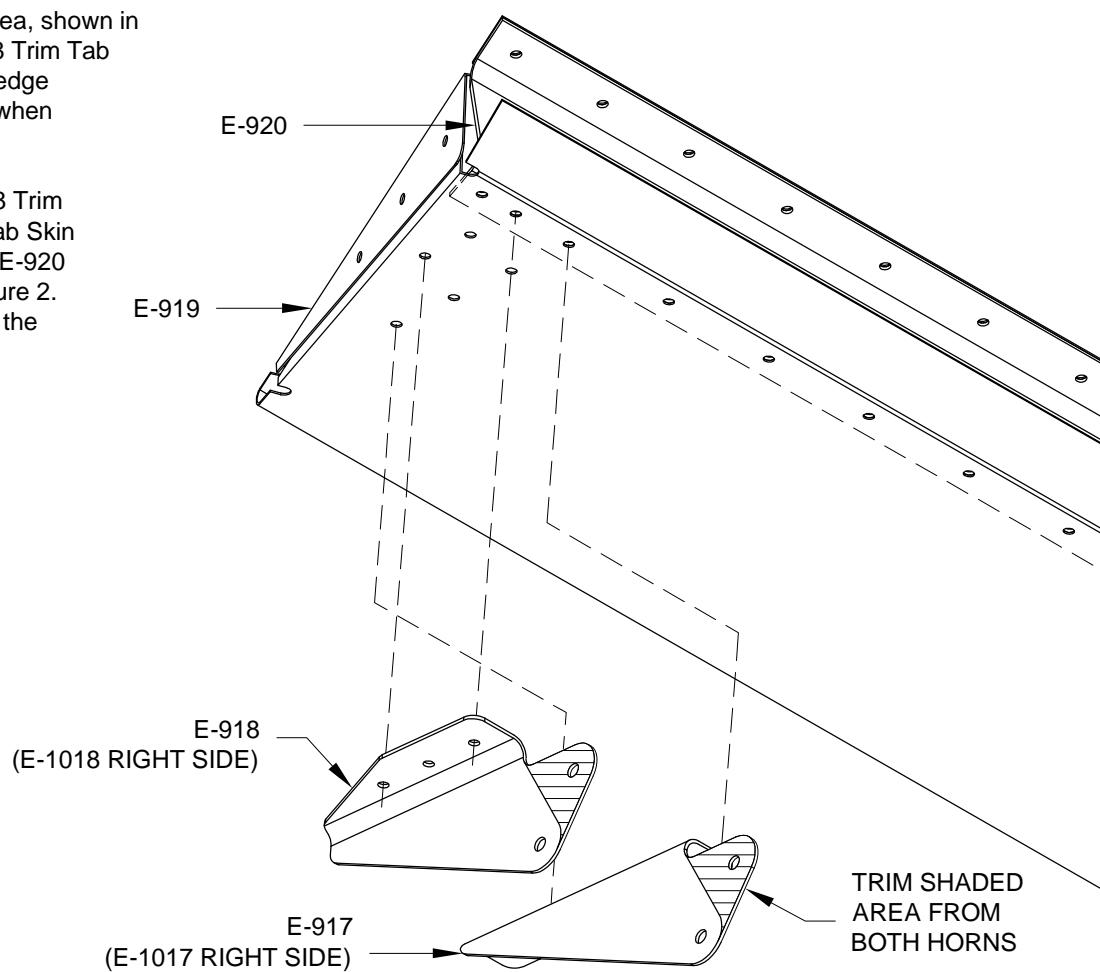

FIGURE 2: TRIMMING AND DRILLING THE TRIM TAB HORNS
Step 3: Remove the shaded area, shown in Figure 2, from the E-917 & -918 Trim Tab Horns. Make sure to keep the edge distance of the remaining hole when trimming.
Step 4: Cleco the E-917 & -918 Trim Tab Horns to the E-919 Trim Tab Skin and to the bottom flange of the E-920 Trim Tab Spar as shown in Figure 2. Final-Drill the holes common to the horns, skin, and spar using a #40 drill.